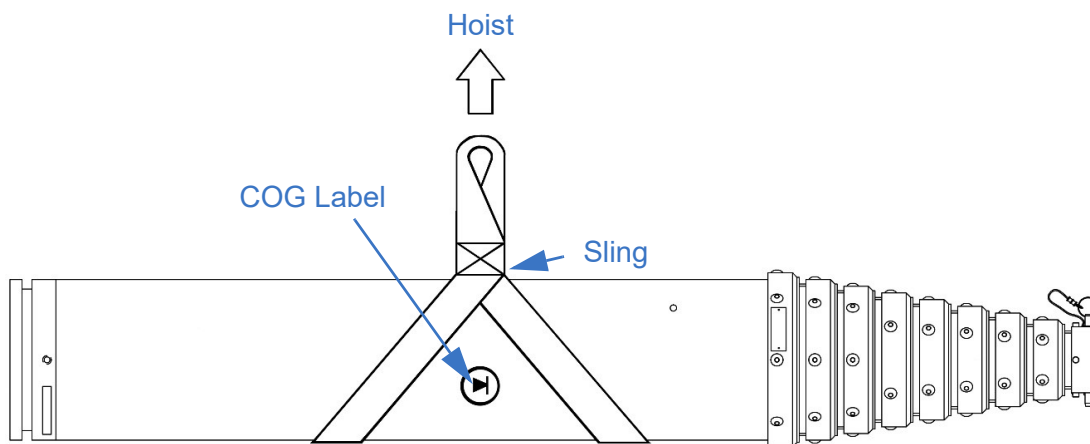

Figure 4-2 Hoist the Mast (Pneumatic Mast Shown)
4. Using the center of gravity (COG) label as a reference, outfit the mast with a sling capable of supporting the mast weight (Figure 4-2). The sling must support the mast from at least two points. Attach the sling so that horizontal balance and control can be maintained while positioning the mast. Hoist and slowly lift the mast until just free of the mast saddles. Lower the mast and adjust the sling as necessary to balance the mast. Hoist the mast free from the crate and carefully move the mast into the desired position.